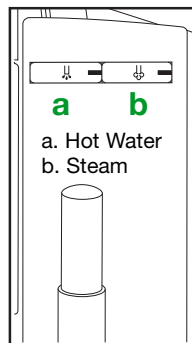

Fig. 4
11. Steam/Hot Water Buttons (See Fig. 4)